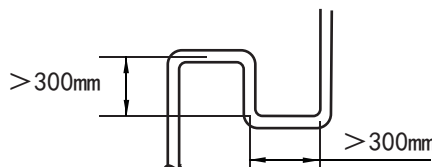

Fig.6-2
- When the main unit is over 20m from the above places, it is recommended to set a return oil bending every 10m of the air pipe in the main pipe, the return oil bending specification is as Fig. 6-2.
Pipe name	Code (As per the Fig. 6-2)
e.x.1: Refer to Fig.6-2, the capacity of downstream units to L2 is $71 \times 4 = 284$, i.e. the gas pipe for L2 is $\Phi 22.2$, liquid pipe is $\Phi 9.5$.
Main pipe L1 in the Fig.6-2, which upstream main units total capacity is $10+8+8=26$ HP, base on table 6-5, the gas/liquid pipe diameter are $\Phi 38.1/\Phi 22.2$, total capacity of the downstream indoor unit is $56\times3+71\times6+112=706$, base on table 6-4, the gas/liquid pipe diameter are $\Phi 31.8/\Phi 19.1$, take the large one for your selection, final confirm the main pipe diameter is: gas/liquid pipe $\Phi 38.1/\Phi 22.2$.